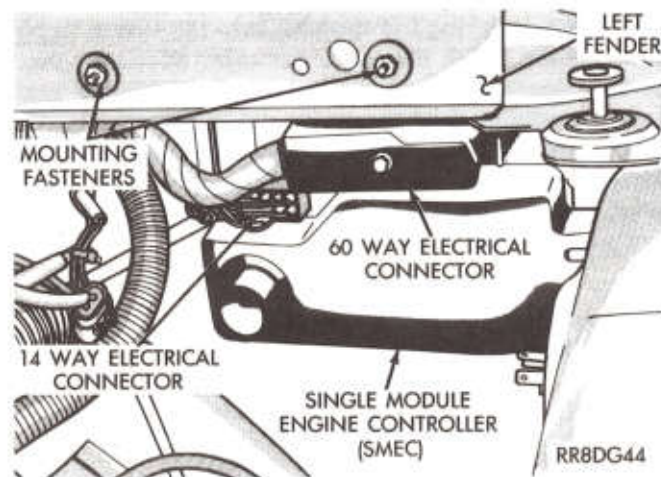

Fig. 1—Servicing the Single Module Engine Controller (SMEC)
- (1) Remove air cleaner duct from SMEC.
- (2) Remove (3) module mounting screws (Fig. 1).
- (3) Remove 14- and 60-way wiring connectors from the SMEC and remove SMEC (Fig. 1).
- (1) Reconnect 14- and 60-Way Electrical connectors to SMEC (Fig. 1).
- (2) Mount SMEC to left fender (Fig. 1). Install and tighten three (3) mounting screws.
- (3) Install air cleaner duct to SMEC.